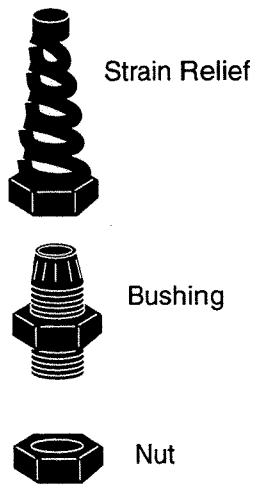

Figure 8.
2. Unpack the back cover and the strain relief assembly. Disassemble the strain relief assembly into its three parts: the strain relief, the bushing, and the nut. Refer to Figure 8.